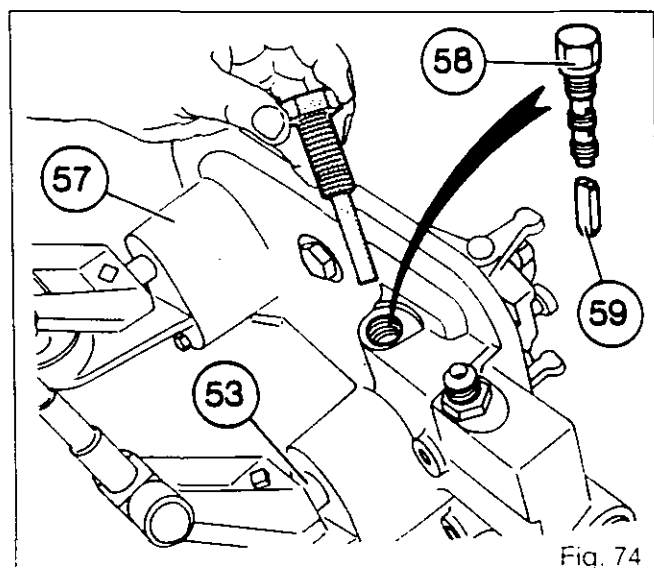
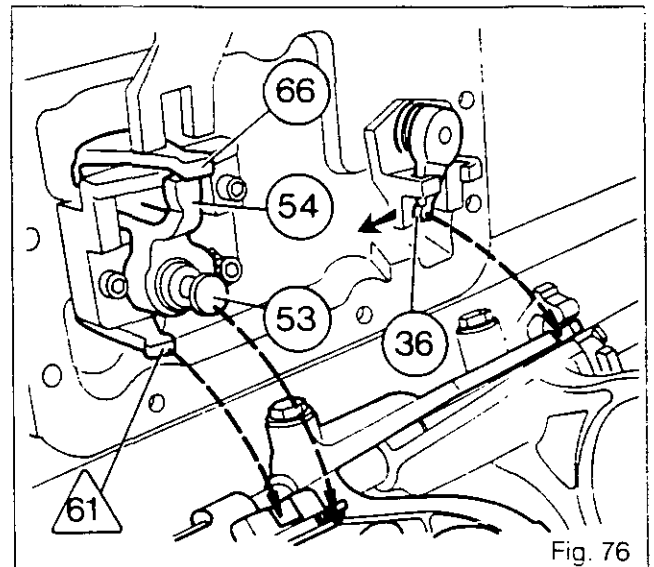

Fig. 74
Fig. 76
249. Remove the pressure valve (58) and the plunger (59) (Fig. 74).
250. Lock the control shaft (53) in position B with lugs (66) and (54) lined up (Fig. 76) using tool 3615053 M01 (Fig.74) (tighten but not fully).
252. Move the gear lever to the left (into 1st) (36) (Fig. 76).
254. Assemble the cover on the gearbox by engaging the lugs (54) and (66) in the reverse shuttle selector and the lug /61\ into the A/B fork, then engage the lug (36) into the 1st and 2nd gear fork and the mechanical lock (Fig.76).